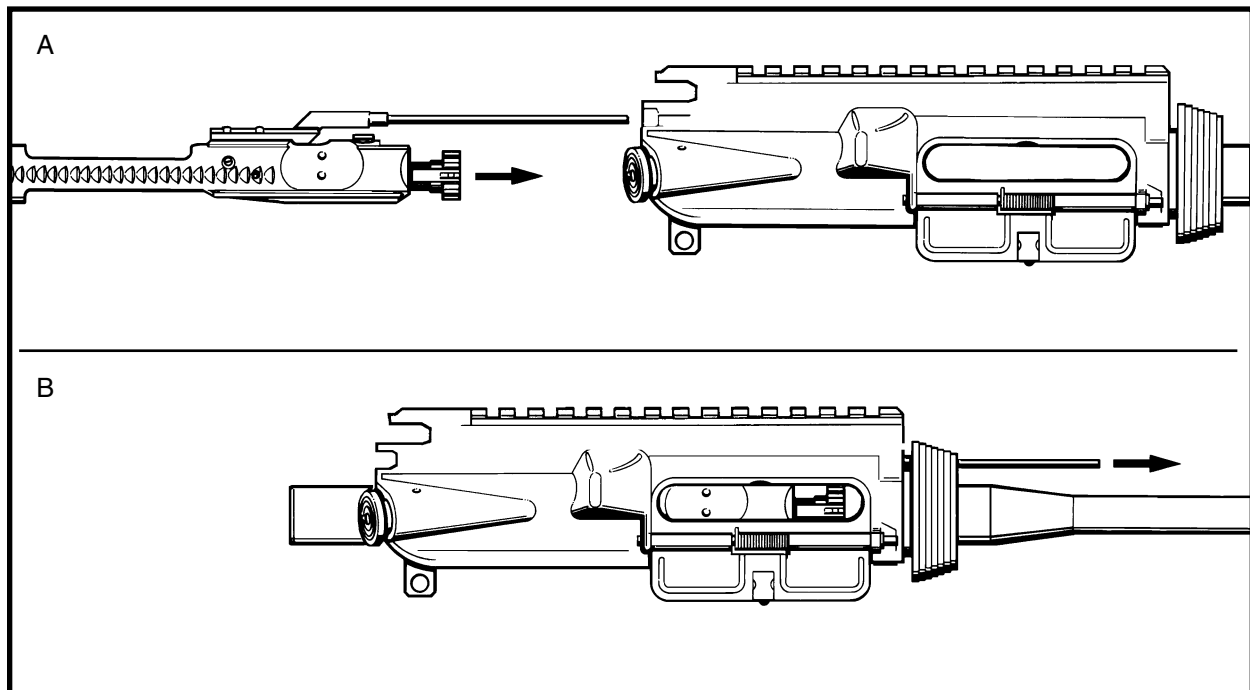

Figure 3-2-23 Using the Barrel Nut Alignment Tool
15. Refer to Figure 3-2-23 and check the alignment of the barrel nut with the upper receiver as follows: